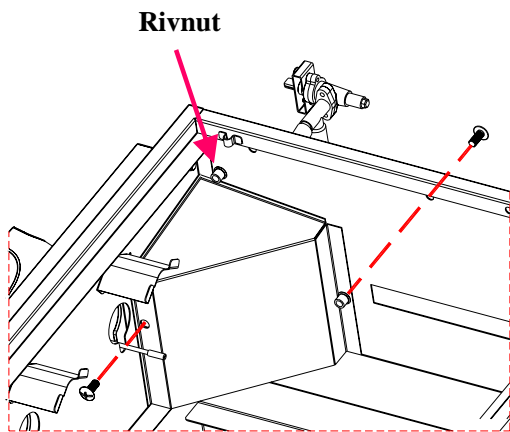

Fig.11
Procedure: Refer to Fig. 11 and set the HVR Cover in the front corner of the Gas Grill Cabinet, so that it covers the actual HVR where it enters and exits the Cabinet. Fasten in place with (2) M6x15 bolts.